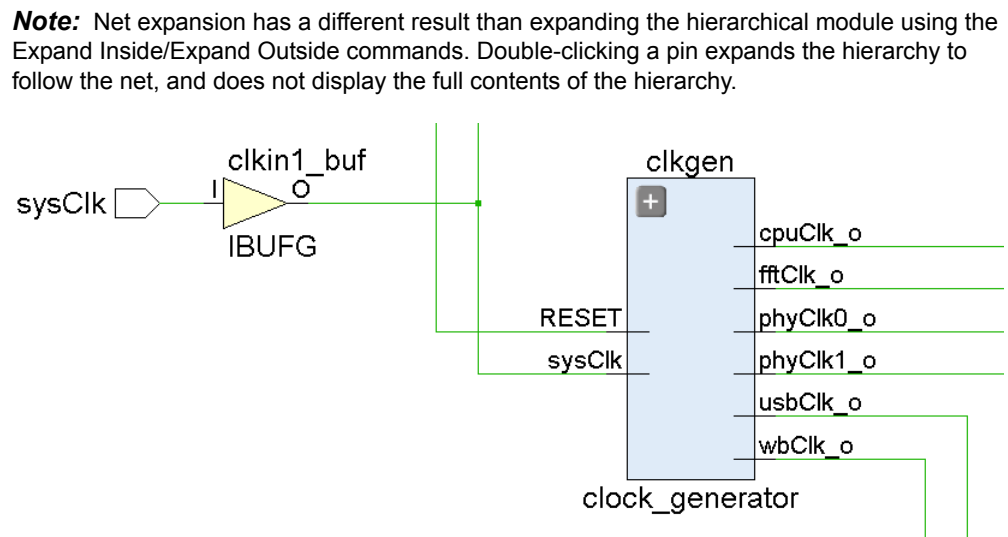

Figure 4-50: Double-click Schematic Pins
- Double-click a pin of an instance to trace the net down into, or up out of the hierarchy. A pin is displayed on the schematic symbol with a stub inside and outside of the symbol as shown in Figure 4-50. This reflects the ability to expand inside or outside the symbol.